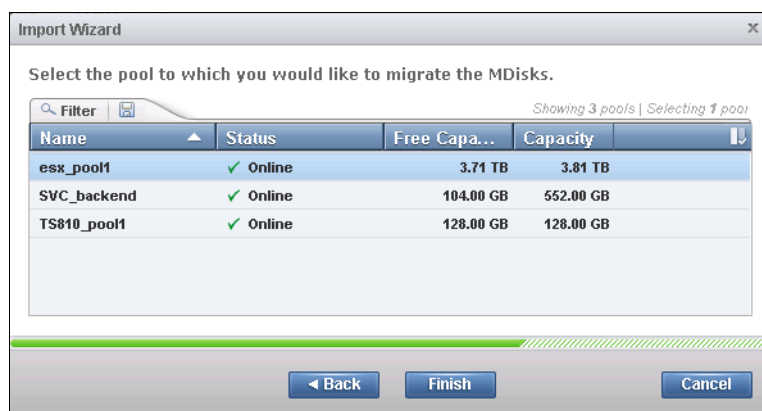

Figure 7-40 Import Wizard: Select existing storage pool
- If you want to migrate the data from the external volume (that is being imported) to existing V7000 internal MDisk (arrays), choose an existing destination storage pool in step 2 on page 204; only pools with sufficient free extent capacity are listed (Figure 7-40). The data migration begins automatically after the MDisk is imported successfully.